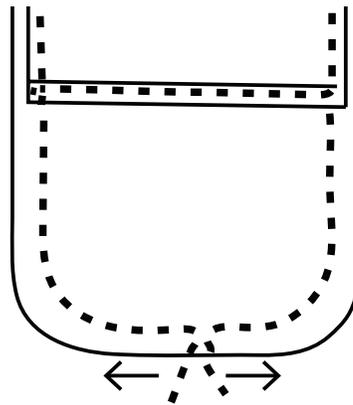

Figure 6
- Finish edge of hem. Fold to right side of pocket and stitch around pocket on $\frac{5}{8}$ -in. seamline. To avoid stretching the pocket, stitch from center bottom to top on each side (Figure 6).